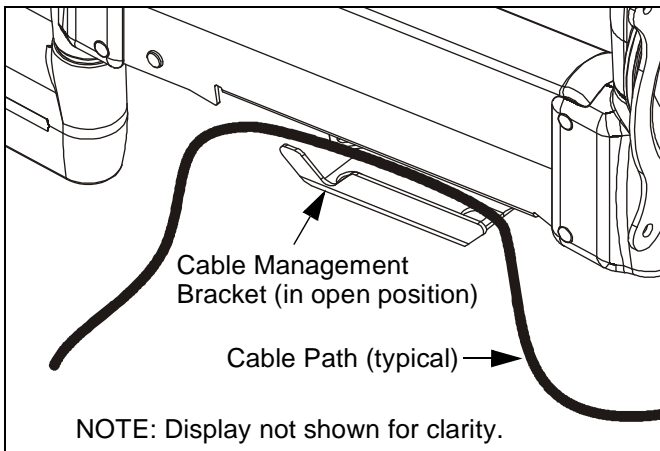

Figure 9
3. Carefully insert cables into bracket (See Figure 9).
4. Close cable management bracket by sliding it back towards the centerline of the arm. (See Figure 9)